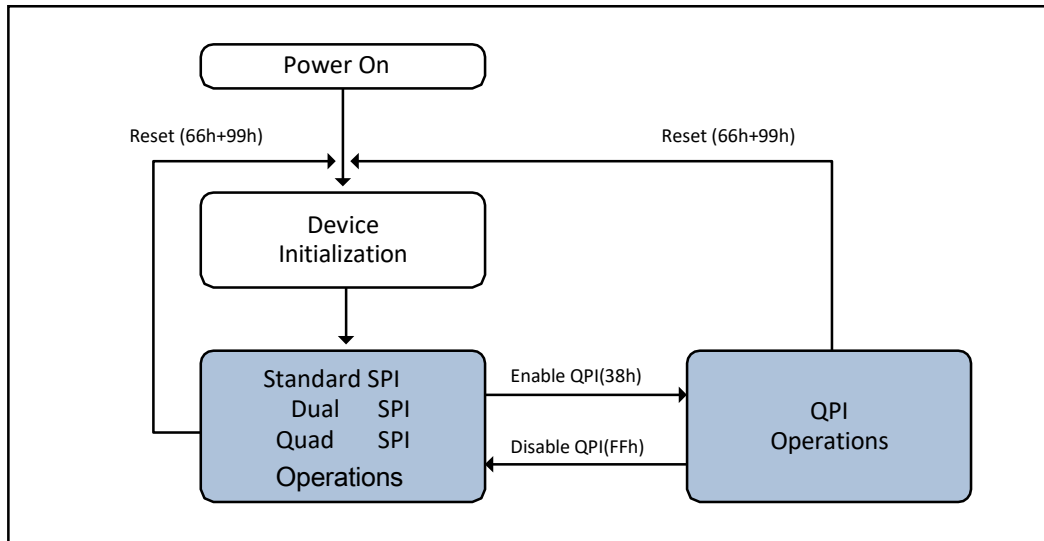

Figure 3. DS25M4AB Serial Flash Memory Operation Diagram
The DS25M4AB supports Quad Peripheral Interface (QPI) operations only when the device is switched from Standard/Dual/Quad SPI mode to QPI mode using the “Enter QPI (38h)” instruction. The typical SPI protocol requires that the byte-long instruction code being shifted into the device only via DI pin in eight serial clocks. The QPI mode utilizes all four IO pins to input the instruction code, thus only two serial clocks are required. This can significantly reduce the SPI instruction overhead and improve system performance in an XIP environment. Standard/Dual/Quad SPI mode and QPI mode are exclusive. Only one mode can be active at any given time. “Enter QPI (38h)” and “Exit QPI (FFh)” instructions are used to switch between these two modes. Upon power-up or after a software reset using “Reset (99h)” instruction, the default state of the device is Standard/Dual/Quad SPI mode. To enable QPI mode, the non-volatile Quad Enable bit (QE) in Status Register-2 is required to be set. When using QPI instructions, the DI and DO pins become bidirectional IO0 and IO1, and the /WP and /HOLD pins become IO2 and IO3 respectively. See Figure 3 for the device operation modes.